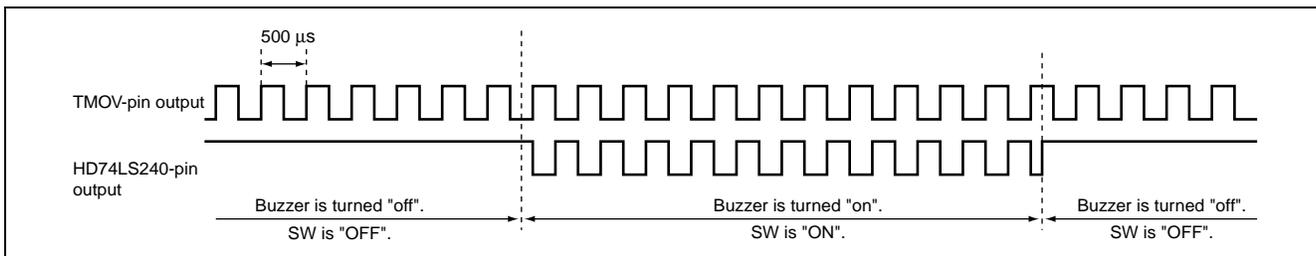

Figure 3.2 Operational Principle for Buzzer Output
2. Figure 3.2 shows the principle of operation for the buzzer-driving output. As shown in figure 3.2, turning on the switch enables the tri-state output inverter driver (HD74LS240) and produces a 2-kHz sound from the buzzer.